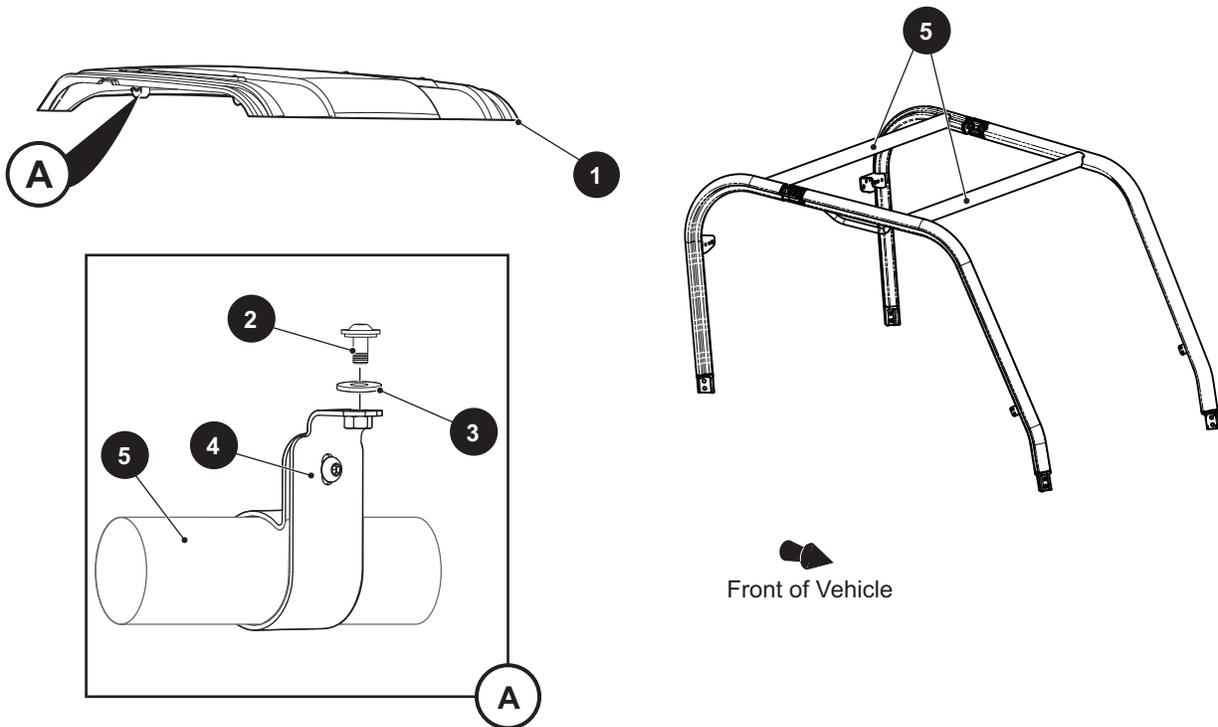

Fig. 1 Canopy Top
Remove the screws (2) and washers (3) from the clamps (4) to release the canopy top (1) from the upper OPS (5) (Ref. Fig. 1).